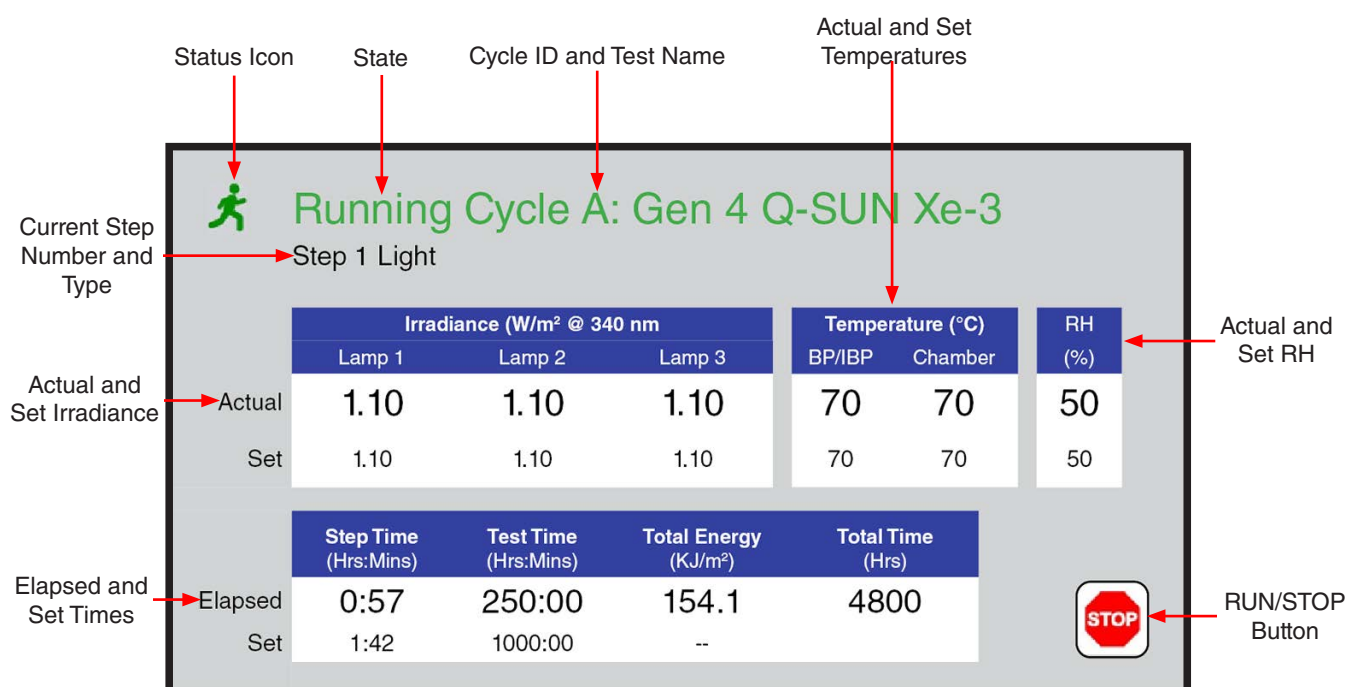

Figure 10.2a: Status screen components.
- The Status Screen (Figure 10.2a) displays: